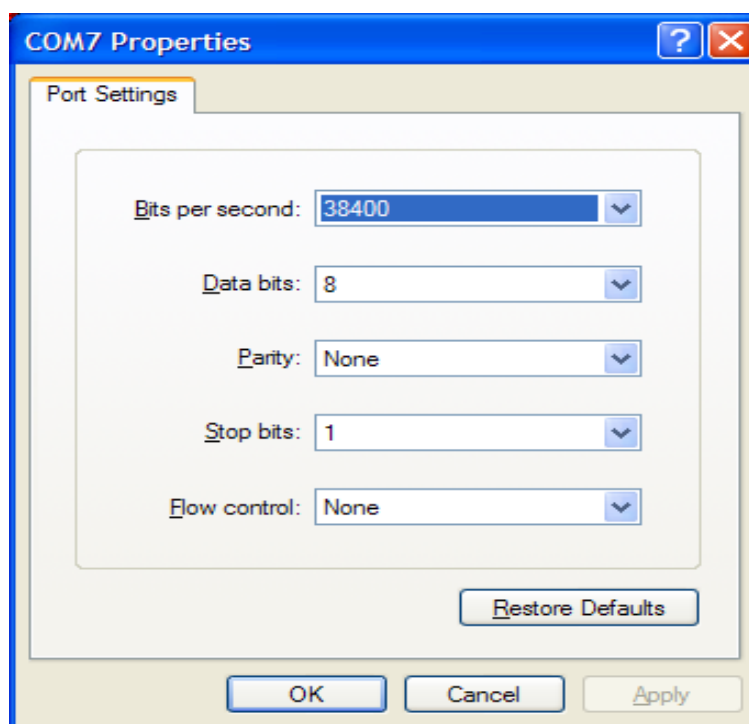

Figure 2-4. Default SMAC RS-232 Settings
5. Use a PC terminal communications program, such as Hyper Terminal, and set the correct baud rate, data bits, parity, COM port, and flow control. Figure 2-4 shows the default MC1322x SMAC RS-232 settings.